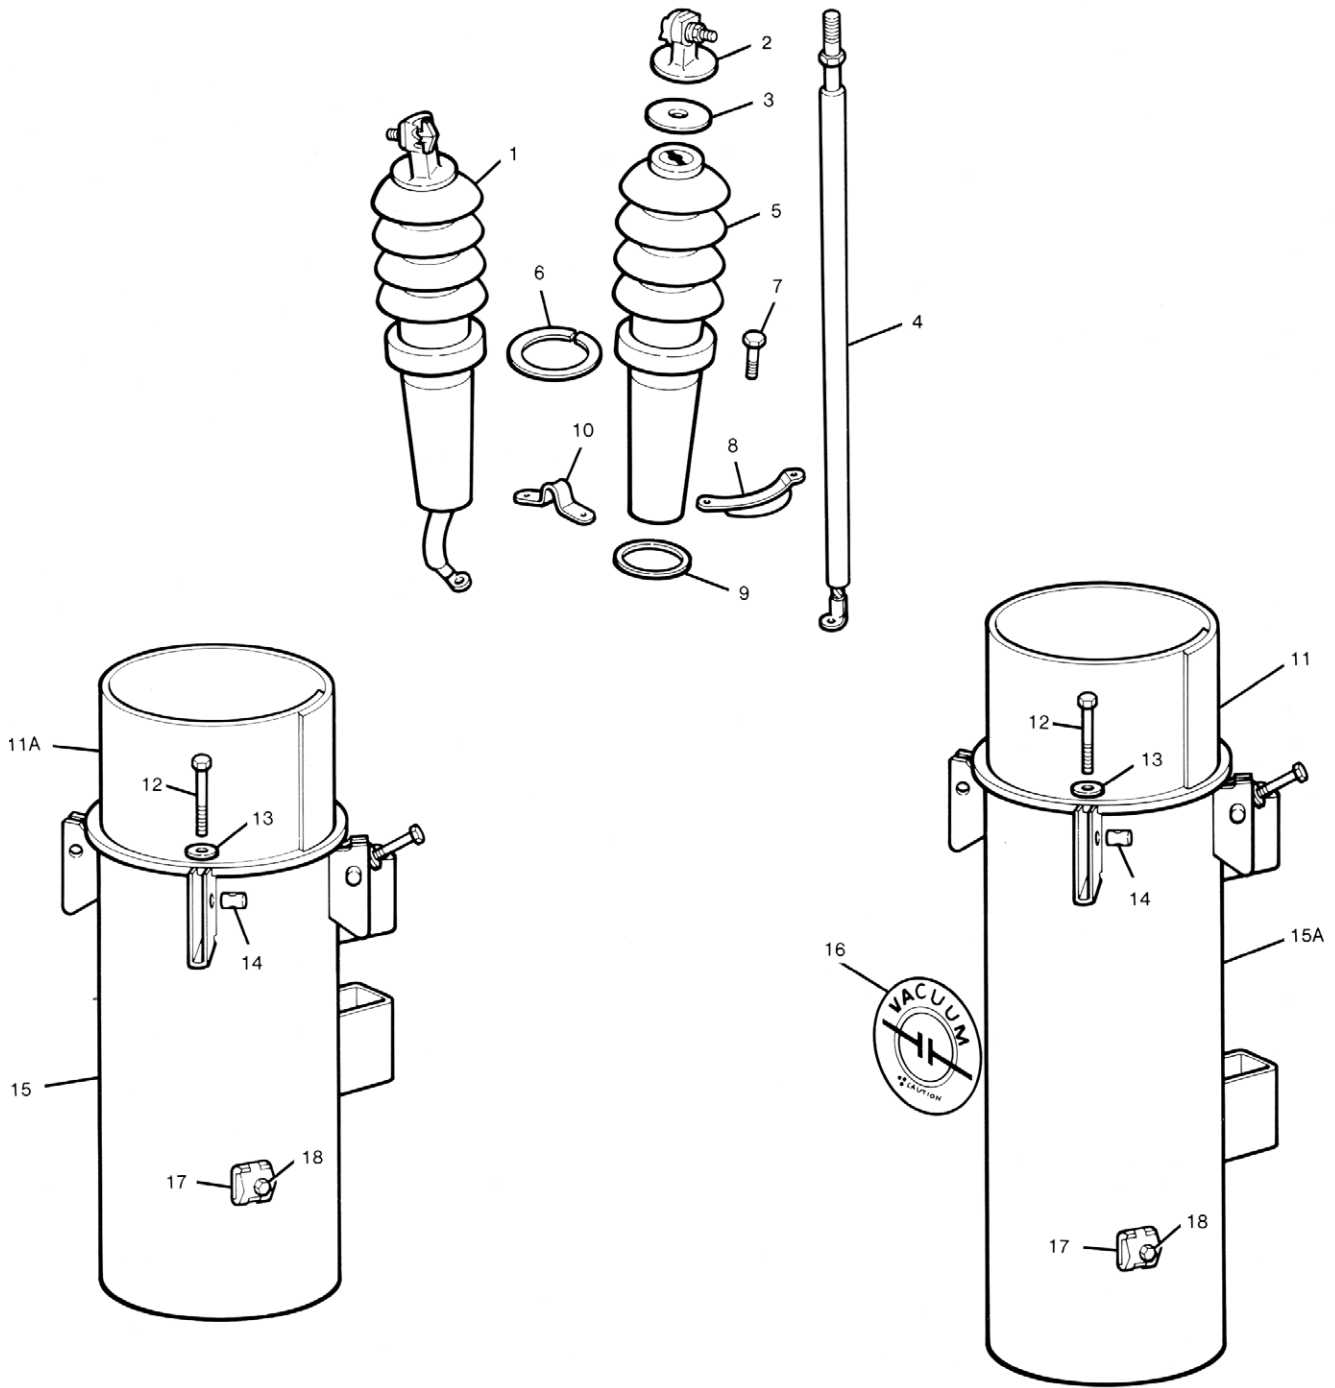

Figure 29. Bushing and tank assemblies
- A. With the counter removed, loosen the screw holding the counter arm in place (Figure 29).